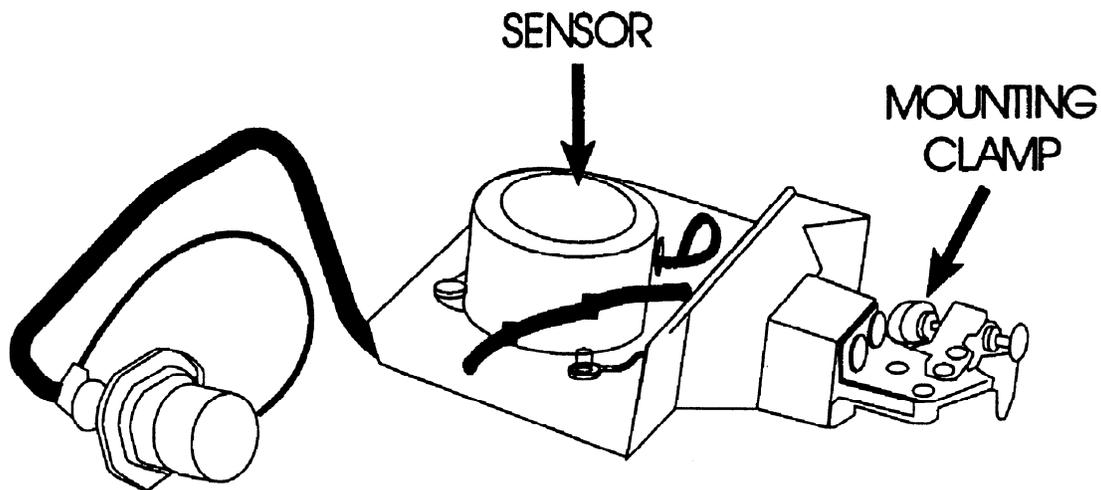

Figure 2-53 Brake Sensor
2.4.7.4.4.1 Brake Sensor Installation. The brake sensor (see Figure 2-53.) senses how far the Driver depresses the service brake pedal while braking during an exercise. Install the brake sensor as follows.